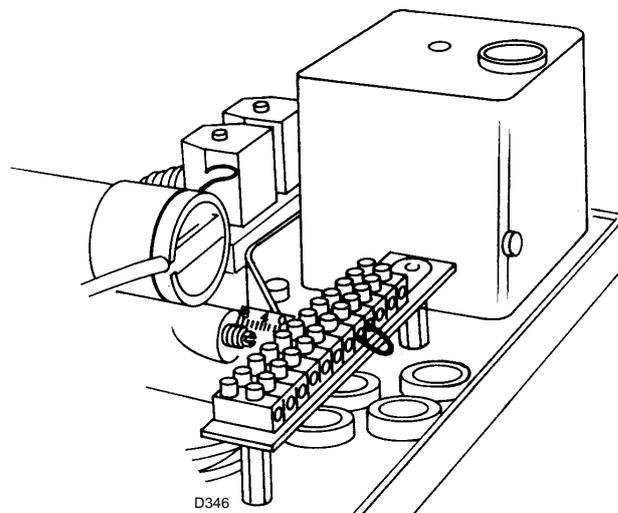

Fig. 27
**the burner is delivered preset for single-stage operation with a jumper inserted in the terminal strip, see (Fig. 27 at page 29). If two-stage operation is required, remove the jumper between terminals 10-11 and insert the control device TR in its place to command the 2nd gas oil solenoid valve.**
the burner is delivered preset for single-stage operation with a jumper inserted in the terminal strip, see (Fig. 27). If two-stage operation is required, remove the jumper between terminals 10-11 and insert the control device TR in its place to command the 2nd gas oil solenoid valve